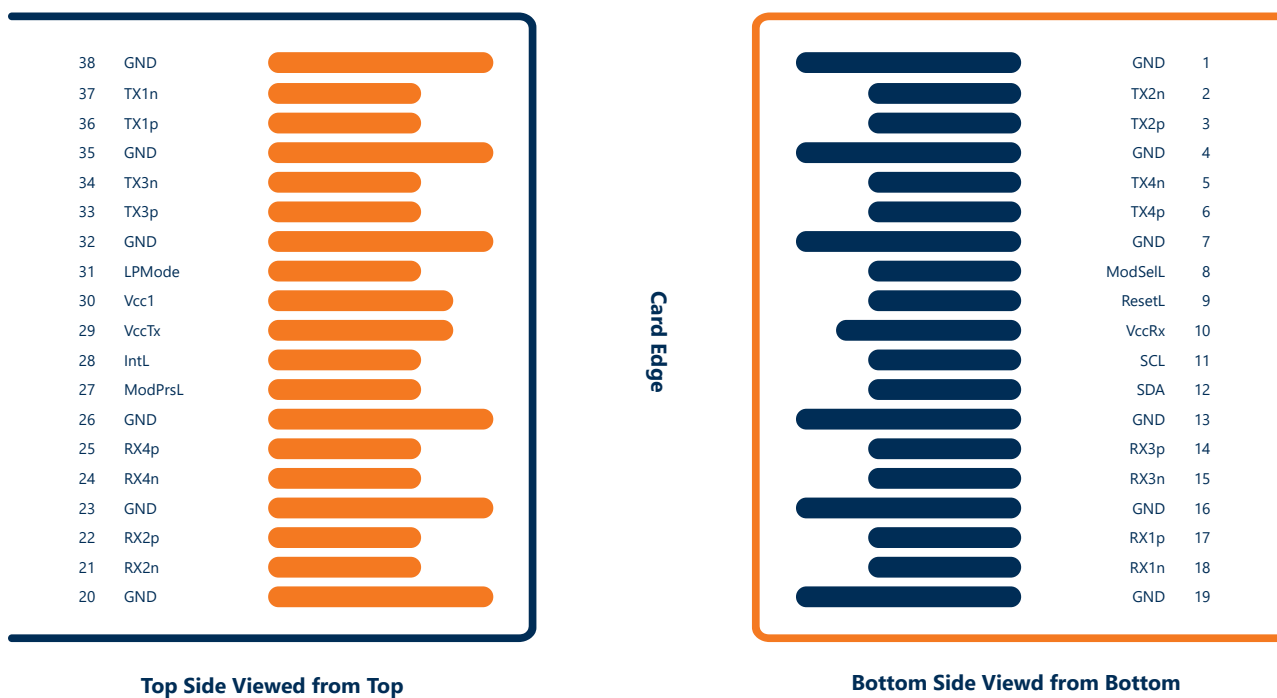

Figure 3. MSA Compliant Connector
2. VccRx, Vcc1 and VccTx are the receiving and transmission power suppliers and shall be applied concurrently. Recommended host board power supply filtering is shown in Figure 3 below. Vcc Rx, Vcc1 and Vcc Tx may be internally connected within the module in any combination. The connector pins are each rated for a maximum current of 500mA.